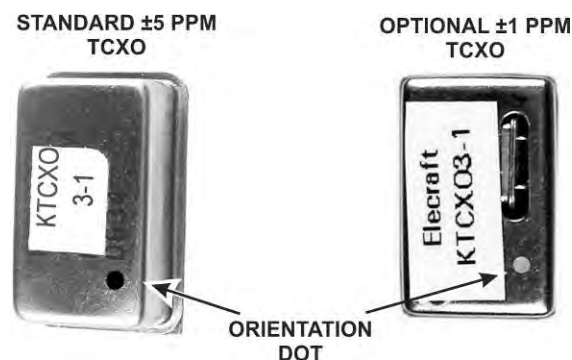

Figure 68. TCXO Modules.
- Locate the Temperature-Compensated Crystal Oscillator (TCXO) module. If you ordered the optional ± 1 ppm TCXO it will be supplied *instead* of the standard 5 ppm module (see Figure 68).